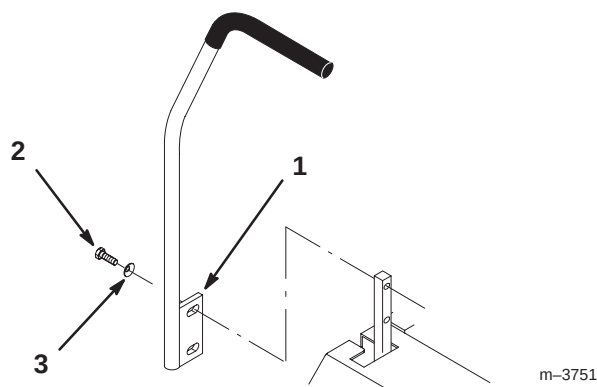

Figure 3
1. Remove the (4) 3/8–16 x 1" (26 mm) bolts and (4) 3/8" spring washers which attach the motion control levers to the control arm shafts for shipping (Fig. 3).
2. Place the levers (with the mounting plate toward the rear) on the outside of the control arm shaft and secure with (4) 3/8–16 x 1" (26 mm) bolts and (4) 3/8" spring washers (Fig. 3).
4. Align the front/rear position of the levers, with each other, in the neutral position. Loosen hardware and adjust by sliding/tilting the lever(s) forward or backward until properly aligned (Fig. 3).